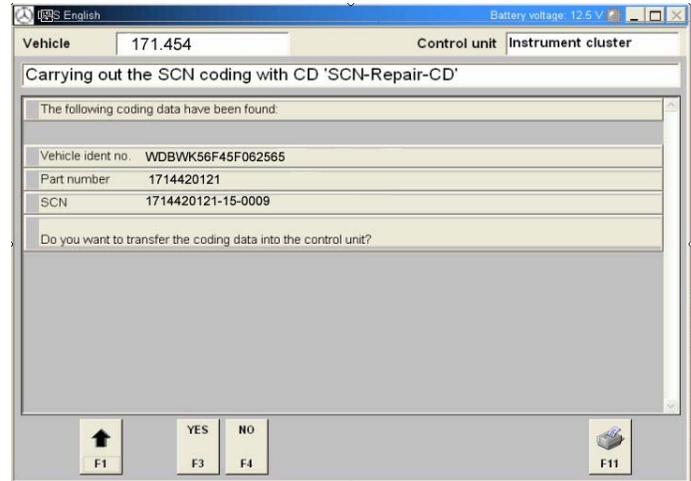

Figure 14
1. If the CD is being read properly, you will see the following screen (Figure 14). Continue to carry out Coding by pressing 'F3'. Proceed to step 3.